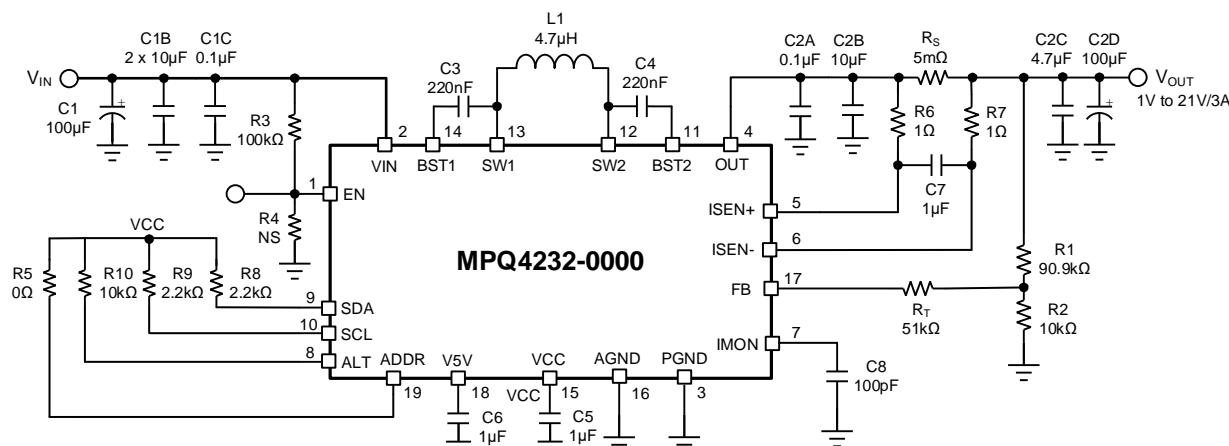

Figure 14: Typical Application Circuit ($V_{IN} = 9V$ to $16V$, $V_{OUT} = 5V$, $1V$ to $21V$ adjustable via the I²C, I²C_EN on by default)
12) The recommended layout is based on Figure 14 on page 38.